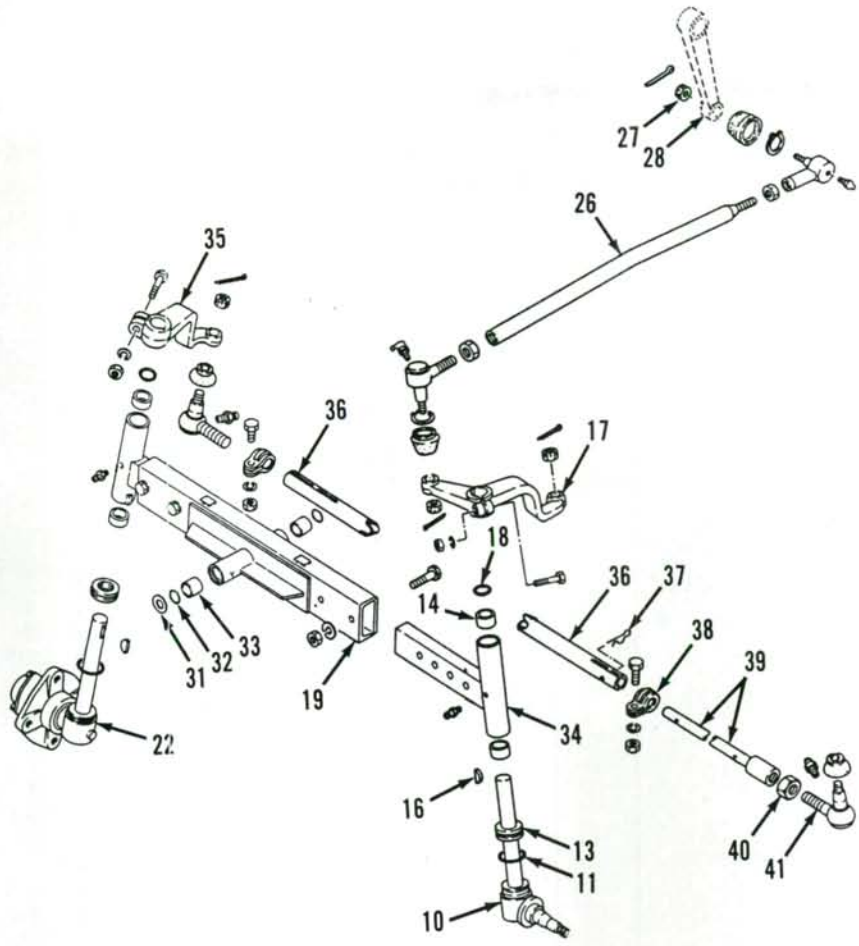

Fig. 3—Exploded view of adjustable axle used on some 245 and 255 models.
2. A single tie rod connects left and right steering arms of spindles (10 and 22—Fig. 1, Fig. 2 and Fig. 3) for 235, 235H, 245 and 255 models. Automotive type ends are not adjustable for wear and should be renewed if worn. Tighten nuts attaching tie rod ends to steering arms to 59-88 N·m (43-65 ft.-lbs.) torque.
Rod ends threaded into tie rod are used to adjust the distance between ends and establish front wheel toe-in. Recommended toe-in is 4-8 mm (3/16-5/16 in.) and should be measured between wheel rims on centerline of axle, parallel to ground. Rotate wheels and re-measure to be sure that wheels are not bent, giving incorrect reading. Tighten rod end jam nut (40—Fig. 3) to 59-88 N.m (43-65 ft.-lbs.) torque after toe-in is correctly set. Bolt for clamps (38) should be tightened to 25-29 N.m (18-22 ft.-lbs.) torque. Holes in tie rod tubes, pins (37) and clamps (38) are used to adjust length of tie rods when changing width of adjustable axle as outlined in paragraph 14.